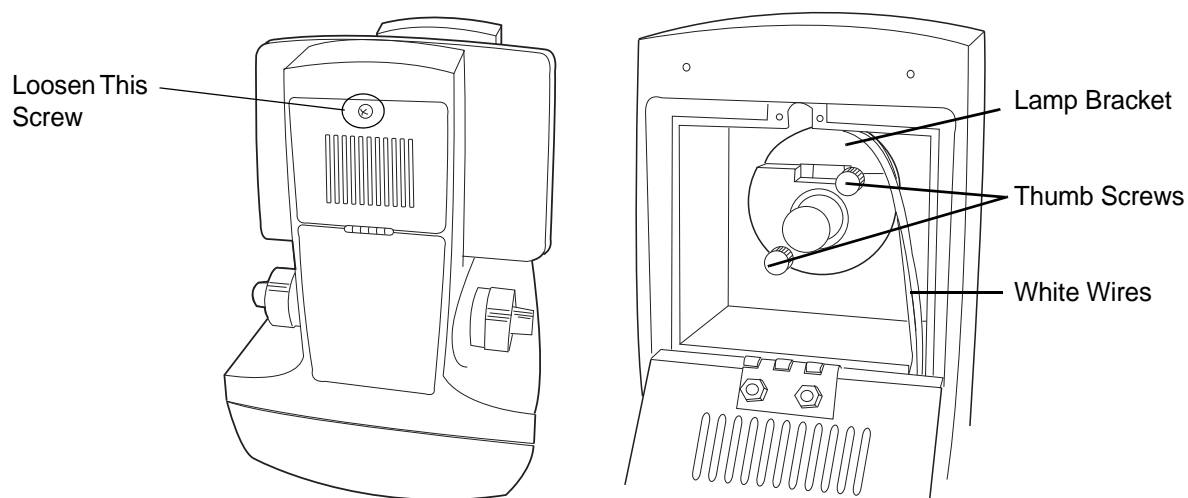

Figure 5-4 Illuminator Assembly Access and Lamp Bracket
5. Using the supplied #2 Phillips Head screw driver, loosen the screw of the illuminator assembly door. Open the door to access the lamp bracket. (Refer to Figure 5-4.)
8. Return the lamp fixture to the holding bracket, seating it flat against the bracket. Tighten the thumb screws. Confirm that the wires come out from the top of the fixture (Refer to Figure 5-4). Be sure the wires are not pinched when the thumb screws are tightened.